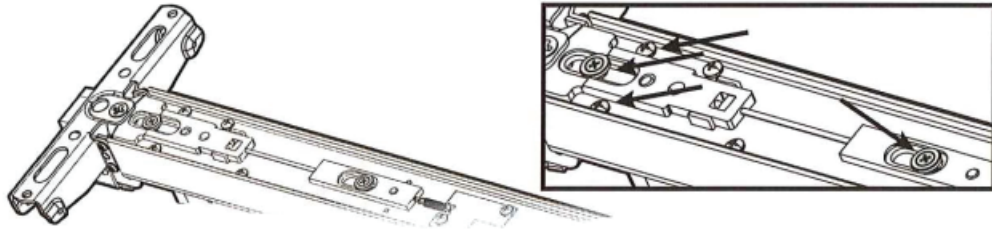

Figure 1 Four-screw removal (M94 base device)
- Remove the four (4) screws holding the trim slide, latch assembly, and connecting slide in place. See Figure 1 on the next page.
- Remove the screws holding the trim slide, latch assembly, and connecting slide in place. See Figure 1.
- Remove the screws holding the trim slide and latch assembly in place. See Figure 1.